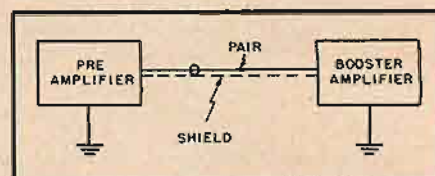

Fig. 2. Ground loop resulting from grounding shield to chassis at both ends of pair.
The construction of the Super Horn is such that panels 1, 2, 4, and 5 act as an exponential horn following a true exponential within one per cent. (See Figs. 2, and 3). The throat of the horn (T) is formed by the top edge of panel 2, and panels 4 and 5. The mouth (M) is defined by the bottom edge of panel 3, the bottom edge of panel 1, and edges of panels 4 and 5. V_c acts as a coupling chamber to keep high frequencies out of the horn. X_1 and X_2 indicate the distance over which area of the horn doubles. The area at Q is double that of the throat and the area of the mouth is double that of Q. Once a flare-rate is chosen, the rest of the dimensions of the cabinet may be determined geometrically.
resulting when, for example, the shield of a cable pair is grounded at both ends. It will be noted from Fig. 2 that multiple grounding forms a coil of one turn, in which a voltage may be induced by any nearby a.c. field. Since the pair shield is part of the loop or turn, noise may thereby be induced in the conductors.